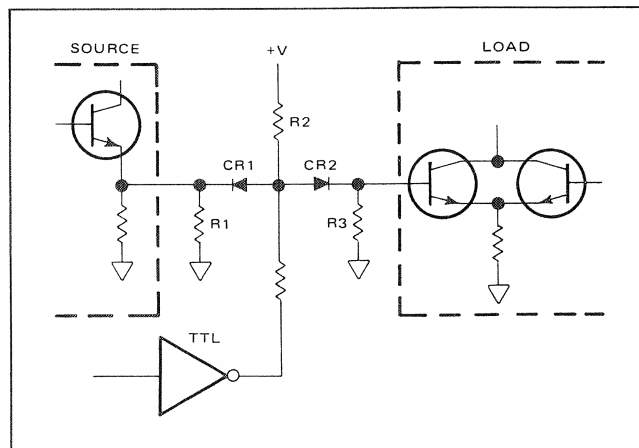

Figure 5.22 - Diode Gate
5.112 The purpose of a diode gate (figure 5.22) is to control a ECL level signal with a TTL gate. The diode gate is much faster than TTL logic and speed is required in these circuits. Diode CR2 is always in forward conduction with the current provided through resistor R2 from V. The state of CR1 depends on the output of TTL gate. If the TTL gate is high, the CR1 conducts. If the TTL gate is low, then CR1 is reverse-biased and the signal is not transferred from